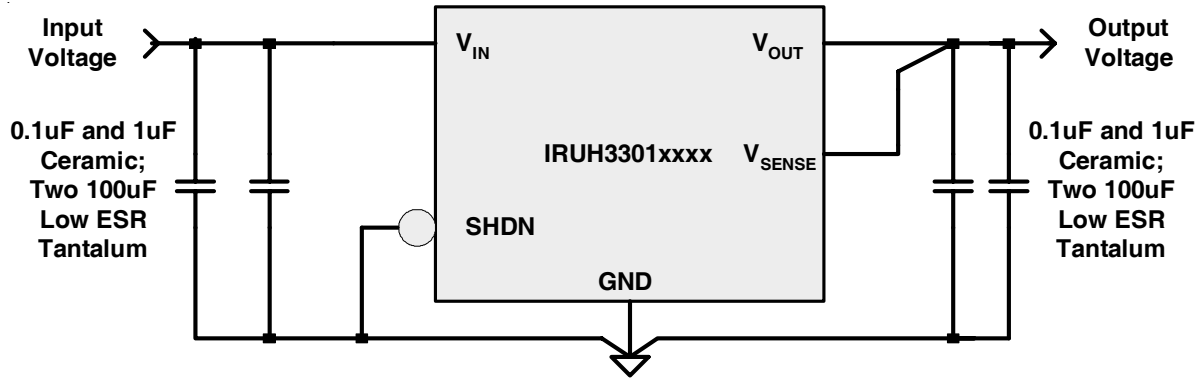

Fig. 1. Typical Regulator Circuit; Note the SHDN Pin is hardwired in the “ON” position.
① Connected as shown in Fig.1 and measured at the junction of V_{OUT} and V_{SENSE} Pins.
② Under normal closed-loop operation. Guaranteed by design. Not tested in production.